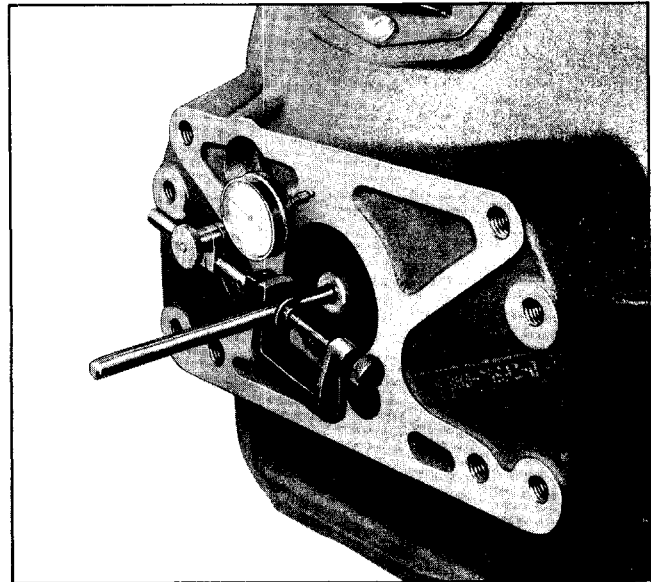

Fig. 7-34 Dial Indicator in Place to Check Face
a. Change indicator location so stem of indicator contacts rear face of flywheel housing $\frac{3}{4}$ " from edge of hole (or $\frac{23}{8}$ " radius from center of hole) as shown in Fig. 7-34.